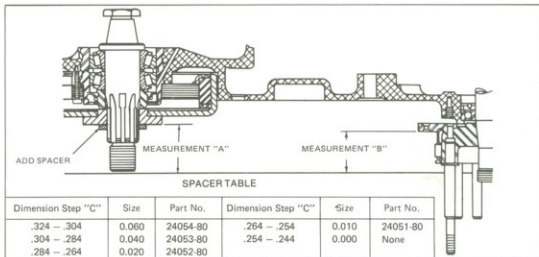

Figure 6-15. Aligning the Primary Belt
1. Remove the clutch shell assembly and compensating sprocket (See Figure 6-15) to determine spacer thickness as follows:
EXAMPLE (refer to Figure 6-15)
Belt tension is set at the factory and should be checked after the first 500 miles and every 10,000 miles thereafter (See Figure 6-15). When 10 lbs of force is applied at the midpoint of the belt's bottom strand, deflection should equal 5/8 to 3/4 in. with rear wheel on the ground and one rider sitting on the motorcycle.